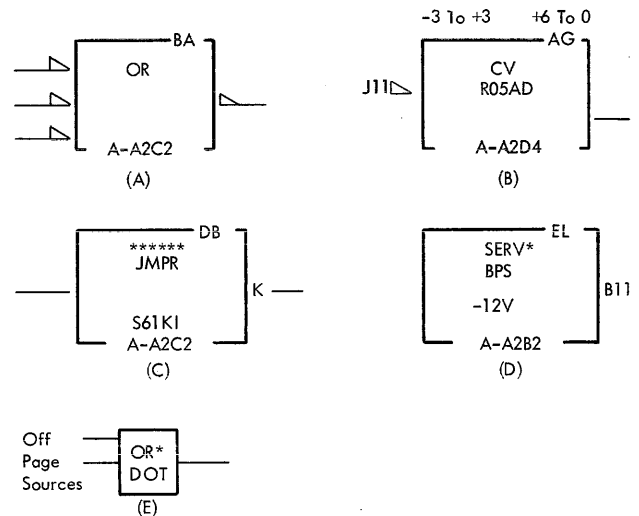

Figure 5-17. FEALD (MST) Block
The block serial is a two-character alphabetic code at the right edge of line 1 (BA in example A, Figure 5-17). Because an FEALD can combine several engineering ALD pages, and as a result block serials can be duplicated, the block serial does not locate the position of a block on a page. Rather, the block serial locates information listed at the bottom of a page on an FEALD without direct addressing.
Line 2 contains the block function (OR in example A, Figure 5-17) or six asterisks. If asterisks occupy line 2, the block function moves to line 3. A row of asterisks indicates an unusual use of a circuit. A single asterisk after the block function indicates that the block is unchecked (example E, Figure 5-17) by the design automation program. A DOT block with an asterisk after the function indicates that all input lines come from off the page, or that a wedge conflict exists.
1. The block function, if asterisks occupy line 2 (JMPR in example C, Figure 5-17). Asterisks in line 2 indicate an unusual condition or use of a circuit.
2. The circuit number, which is printed for special reasons—a row of asterisks in line 2, or a circuit having no standard voltage code (CV in example B, Figure 5-17).
3. The additive card code on unchecked blocks (BPS in example D, Figure 5-17).
Line 4 is generally blank but may contain a circuit number (S61KI in example C, Figure 2-36). In a service (SERV) block, line 4 contains voltage information (-12V in example D, Figure 5-17). Line 4 can contain the value of a capacitor or resistor block. As an alternative, the circuit number may appear in line 2. Groups of resistors may be represented by a single block (R) as long as they are on the same card. Block BD in Figure 5-28 is an example.